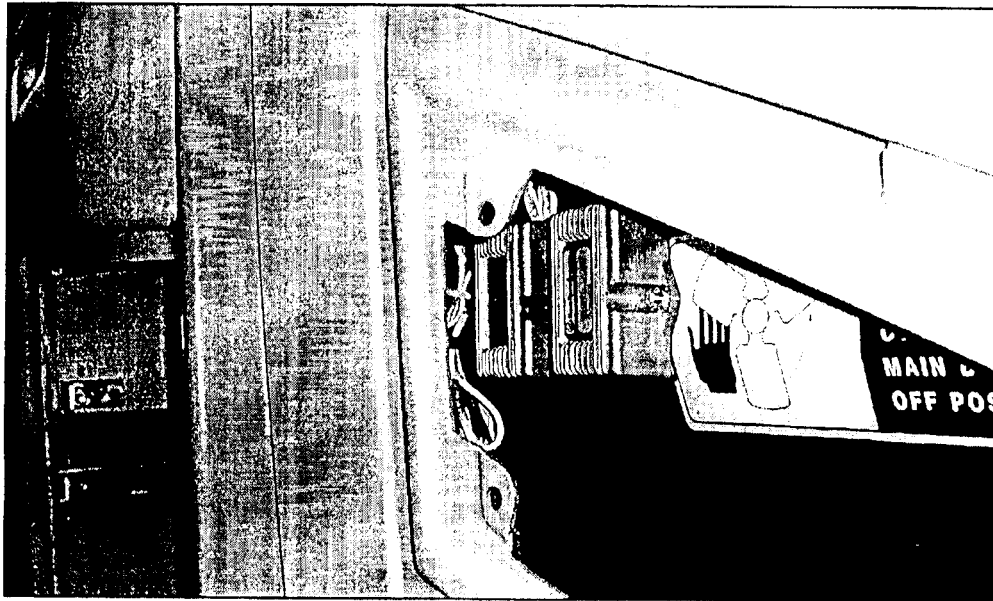

Figure 11.
17. Using tyraps (part number 19-11-258), bundle the harnesses and wires (Figure 11).
Access to the top, roadside mounting stud for the stepwell panel will be blocked by the new motor drive module installation. Access can be gained through the driver's drawer (Figure 11).